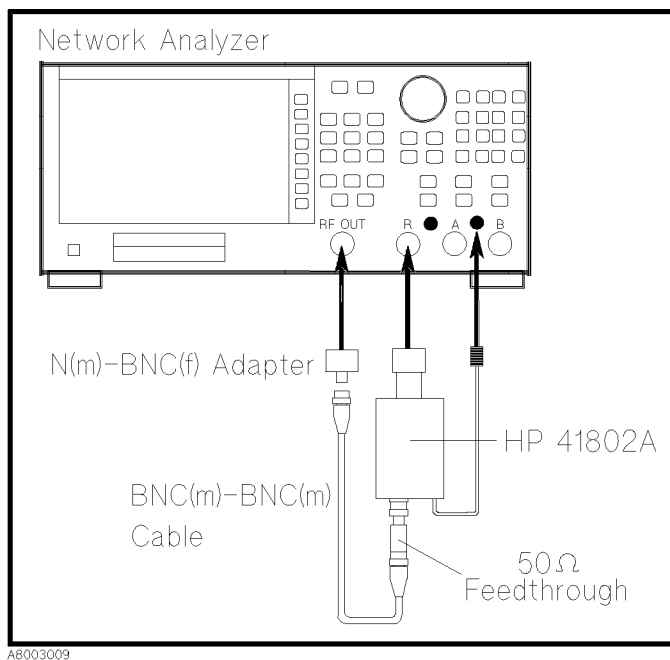

Figure 3-2. Operating Check Setup Using HP 8753A/B/C Network Analyzer
1. Connect the equipment as shown in Figure 3-2. Note that the probe power plug must be connected before connecting the HP 41802A's N-type connector.